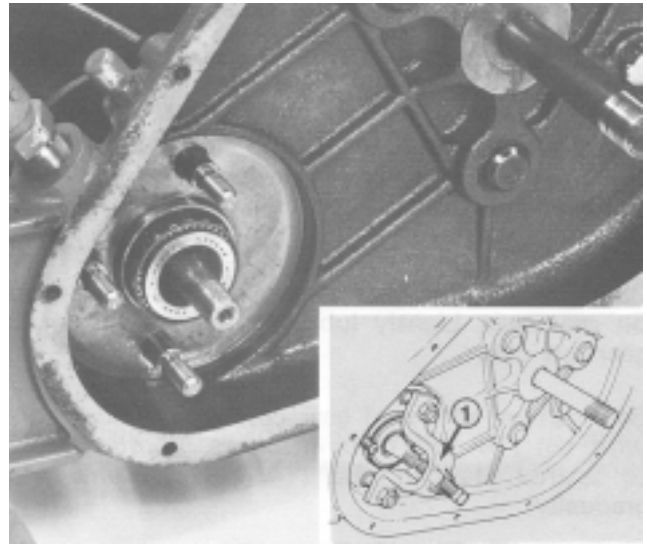

Figure 31
21. Remove bearing and gear case from right end of reel shaft (Fig. 31).